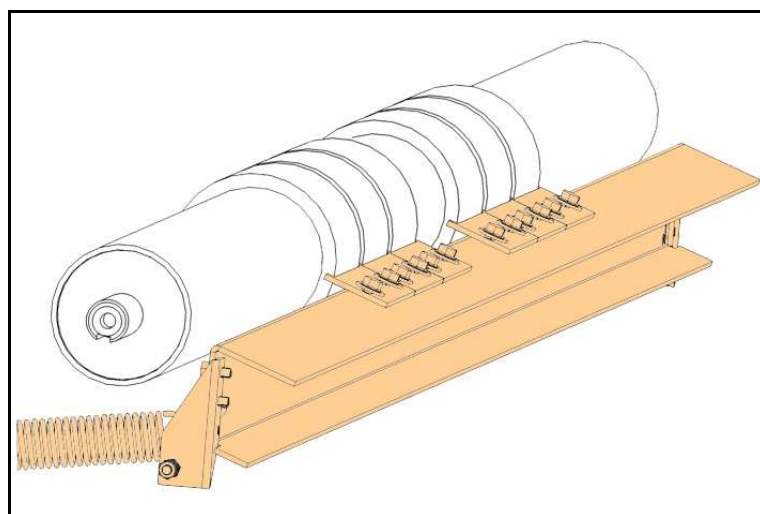

fig15
- b. Later models have a different device with springs, no adjustment needed.(fig15)